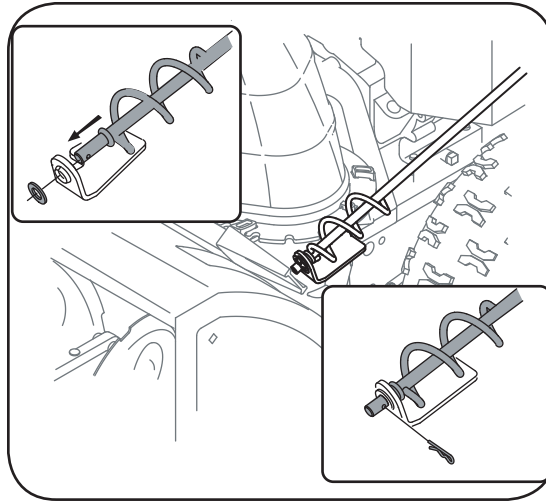

Figure 3-5
- Remove the flat washer and hairpin clip from the end of the chute directional control. See Figure 3-5.